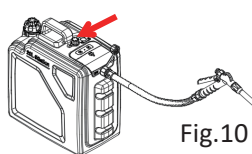

Fig.10
3. Close the air vent hole by cap as shown in Fig.10